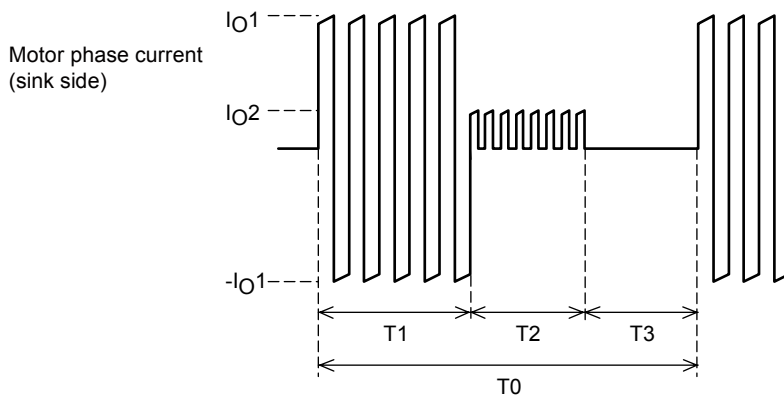
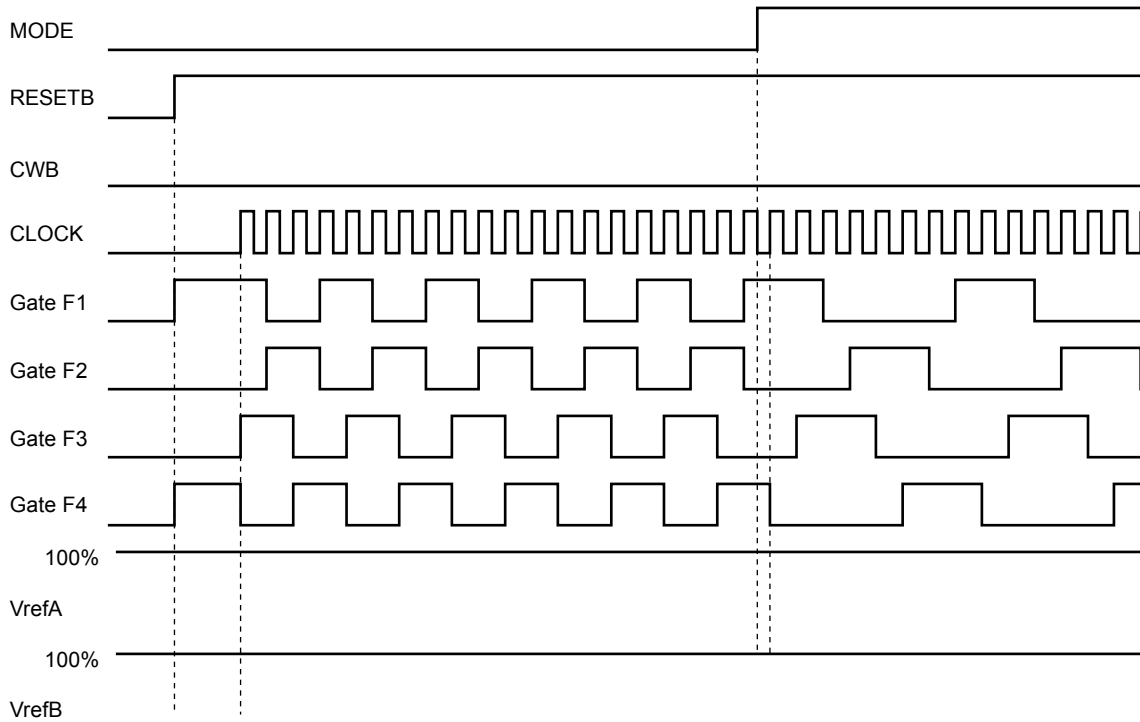

Figure 4 Motor Current Timing
Figure 5 Hybrid IC internal average power dissipation,  $P_D$  - Motor current,  $I_{OH}$
As shown in figure 6, the value of ΔTc increases as the hybrid IC internal average power dissipation PD increases. As shown in figure 5, PD increases with the motor current. Here we describe the actual PD calculation using the example shown in the motor current timing chart in figure 4.
Since there are periods when current flows and periods when the current is off during actual motor operation, PD cannot be determined from the data presented in figure 5. Therefore, we calculate PD assuming that actual motor operation consists of repetitions of the operation shown in figure 4.
Note that figure 4 presents the concepts here, and that the on/off duty of the actual signals will differ.
While the operating range when a heat sink is not used can be determined from formula (I) above, figure 5 is merely asingle example of one operating mode for a single motor.
For example, while figure 5 shows a 2-phase excitation motor, if 1-2 phase excitation is used with a 500Hz clock frequency, the drive will be turned off for 25% of the time and the dissipation PD will be reduced to 75% of that in figure 5.